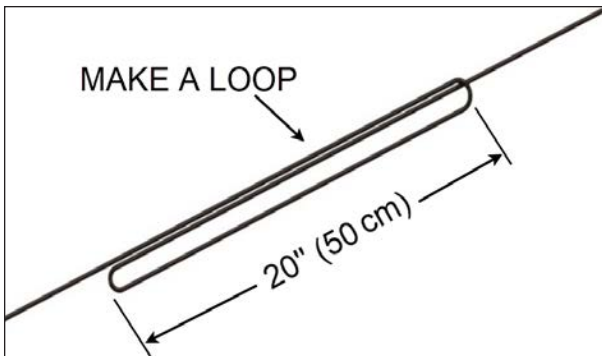

FIGURE 87: WIRE LOOP
2. Fold wire in two by making a loop with your hands. The length of the loop must be approximately 20" (50 cm) long see Figure 87.